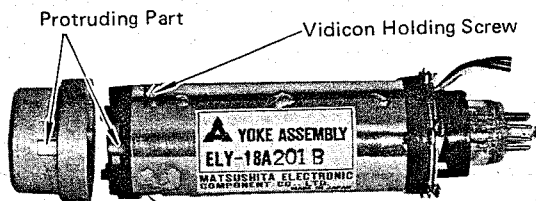

Fig. 3-9
- Tighten the vidicon holding screw to secure the vidicon in place. (Fig. 3-9)
- Install the coil guide onto the deflection coil observing the alignment as shown in Fig. 3-9.